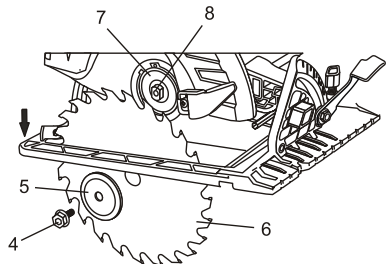

Fig. 3
NOTE: Do NOT remove the inner blade flange (7) from the arbor (8). If it should fall off, make sure the THICKER boss on the washer is facing the motor (Fig. 3).